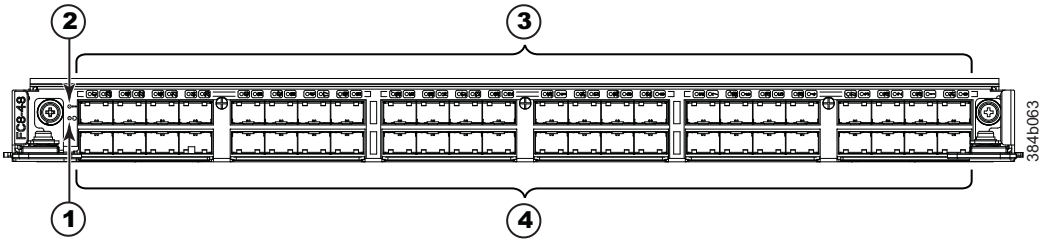

Figure 53. FC8-48 port blade
- Figure 53 on page 138 shows an FC8-48 port blade